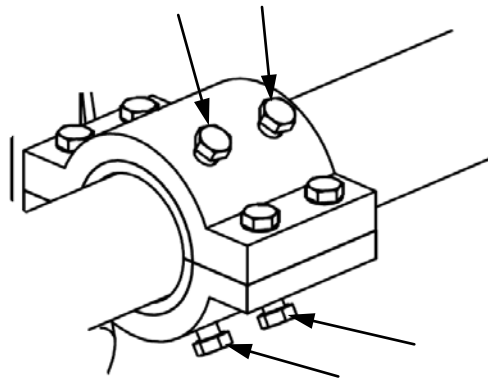

Figure 7
7. Lock the torsion arms to the poles by tightening the four lock bolts on each torsion arm, as shown in Figure 7.